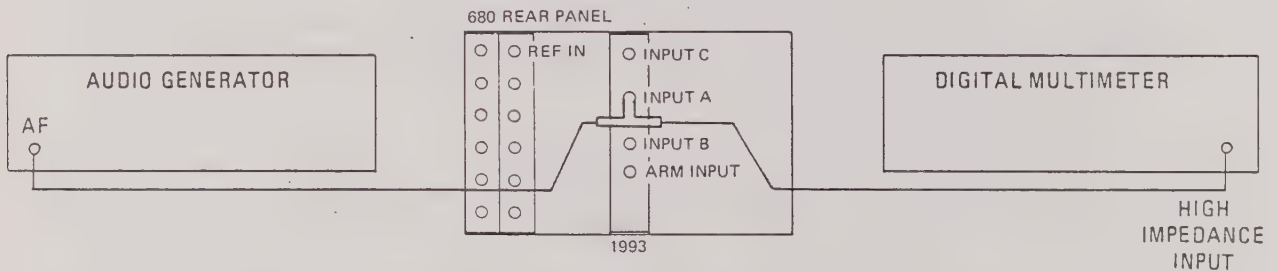

Fig. 6.8 Connections for Channel A Sensitivity PVP (II)
- (1) Connect the test equipment as shown in Fig. 6.8.